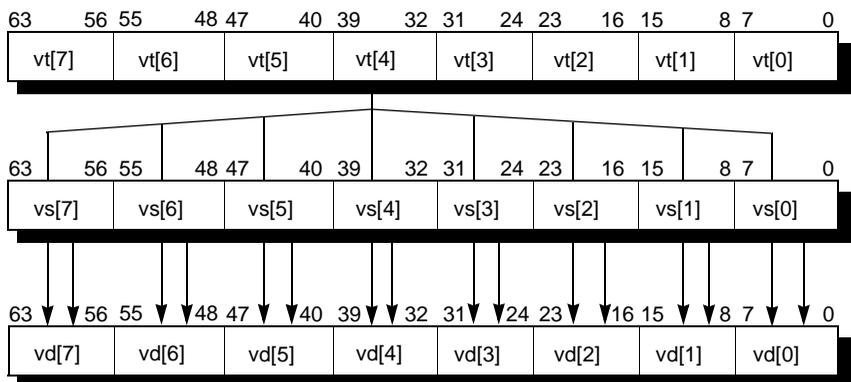

Figure 19-2 Vector-Scalar Operation
- **Vector-Scalar.** Each element of source vector vs is operated against a selected element of source vector vt to produce destination vector vd , as shown in Figure 19-2